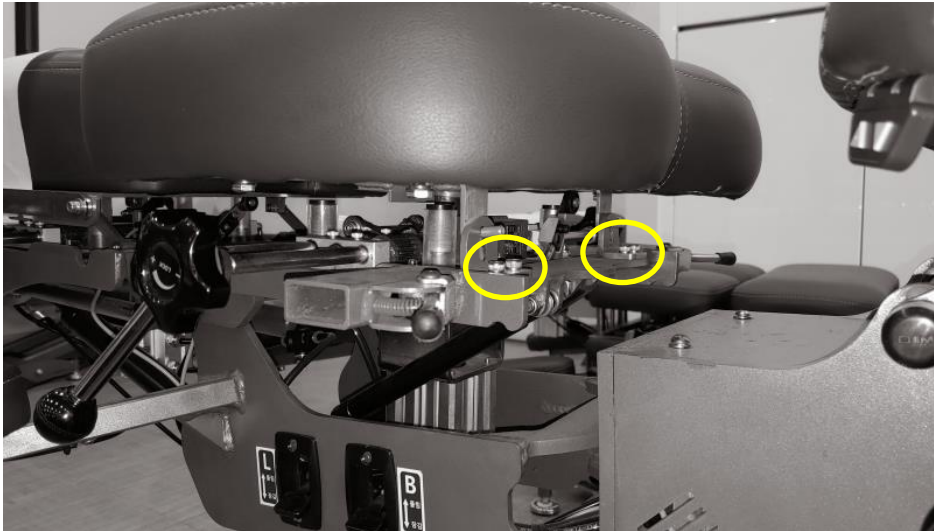

Figure 1.3
3. Remove the four 5 mm bolts (see Figure 1.3).